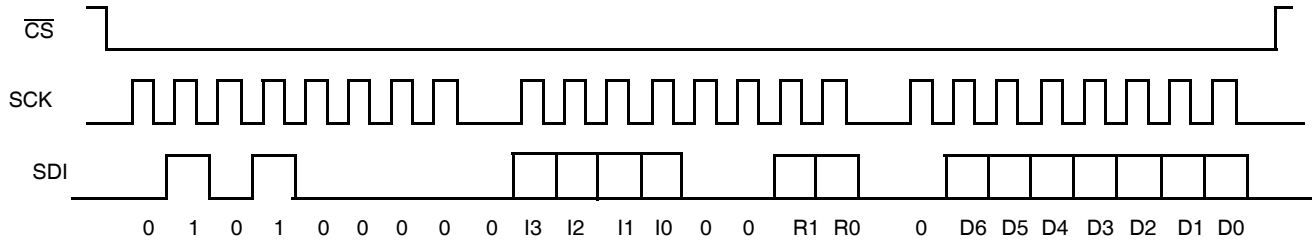

FIGURE 16. THREE BYTE WRITE SEQUENCE
A Write operation to the ISL22416 is a three-byte operation. It requires first, the  $\overline{\text{CS}}$  transition from HIGH to LOW, then a valid Identification Byte, then a valid instruction byte followed by Data Byte is sent to SDI pin. The host terminates the write operation by pulling the  $\overline{\text{CS}}$  pin from LOW to HIGH. For a write to address 0 (WR), the byte at address 2 (ACR<7>) determines if the Data Byte is to be written to volatile or both volatile and non-volatile registers. Refer to "Memory Description" and Figure 16.